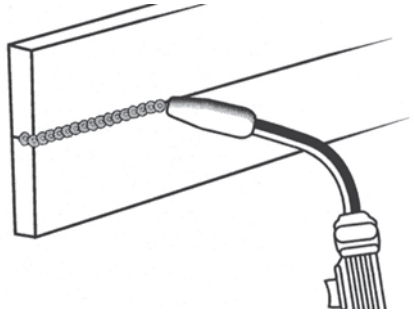

Figure 15. Horizontal Position
2. The **HORIZONTAL POSITION** (Figure 15) is next in difficulty level. It is performed very much the same as the flat weld except that angle B (see **HOLDING THE TORCH** - p.16) is such that the wire, and therefore the arc force, is directed more toward the metal above the weld joint. This is to help prevent the weld puddle from running downward while still allowing slow enough travel speed to achieve good penetration. A good starting point for angle B is about 30 degrees DOWN from being perpendicular to the work piece.